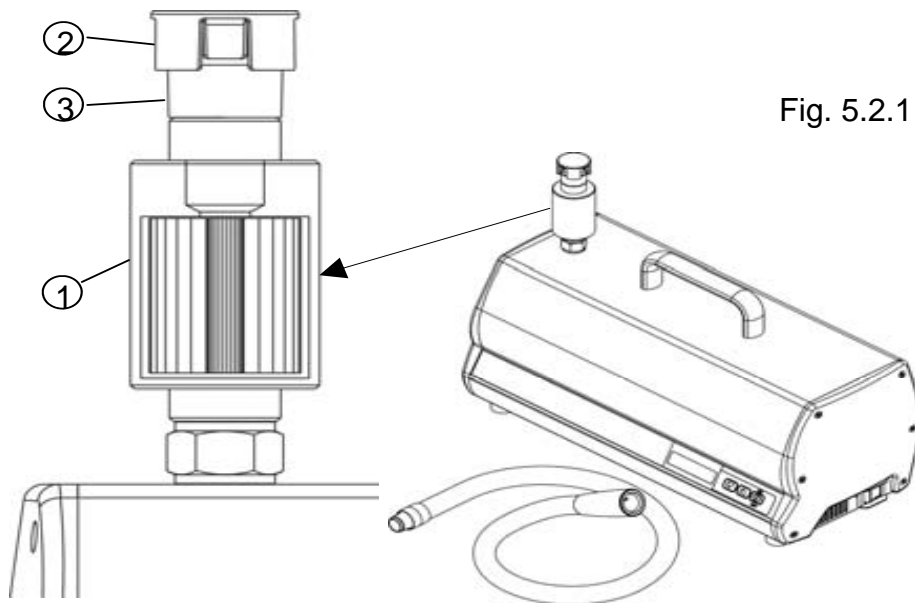

Fig. 5.2.1
For the vacuum to be executed correctly, periodically check that the visible filter (Ref. 1 Fig. 5.2.1) is not full and/or clogged; if it is, replace it in the following manner:
- remove the cap of the suction channel (Ref. 2 Fig. 5.2.1);
- unscrew the suction channel (Ref. 2 Fig. 5.2.1);
- unscrew the filter (Ref. 1 Fig. 5.2.1) and replace it with a new one having the same characteristics;
- screw the suction channel back on (Ref. 2 Fig. 5.2.1).